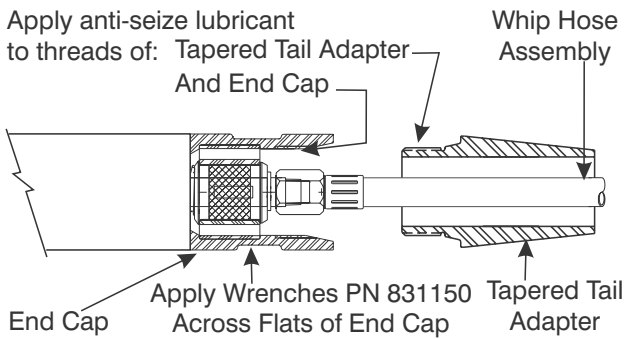

Figure 11-19. End Cap and Tail Adapter
2. Apply a light coat of Anti-Seize lubricant to the external threads of the Tapered Tail Adapter (13) and the internal threads of the End Cap (8), as shown in Figure 11-19.